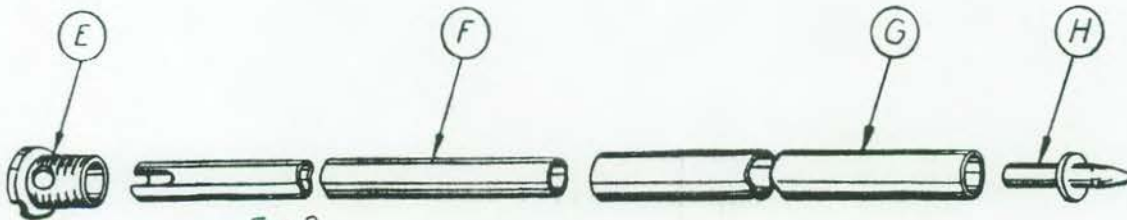

FIG. 2
40 BOTH ENDS (E) AND (H), FIGURE 2, OF STEAM TUBE ARE SOLDERED IN PLACE AND CAN BE REMOVED BY HEATING AND PULLING OFF. SLEEVE (G) NOW SLIDES OFF TUBE (F). REPLACE PARTS IF NECESSARY, AND SLIP SLEEVE (G) OVER (F), (E) AND (H) AND SWEAT INTO POSITION SHOWN IN FIGURE 2.